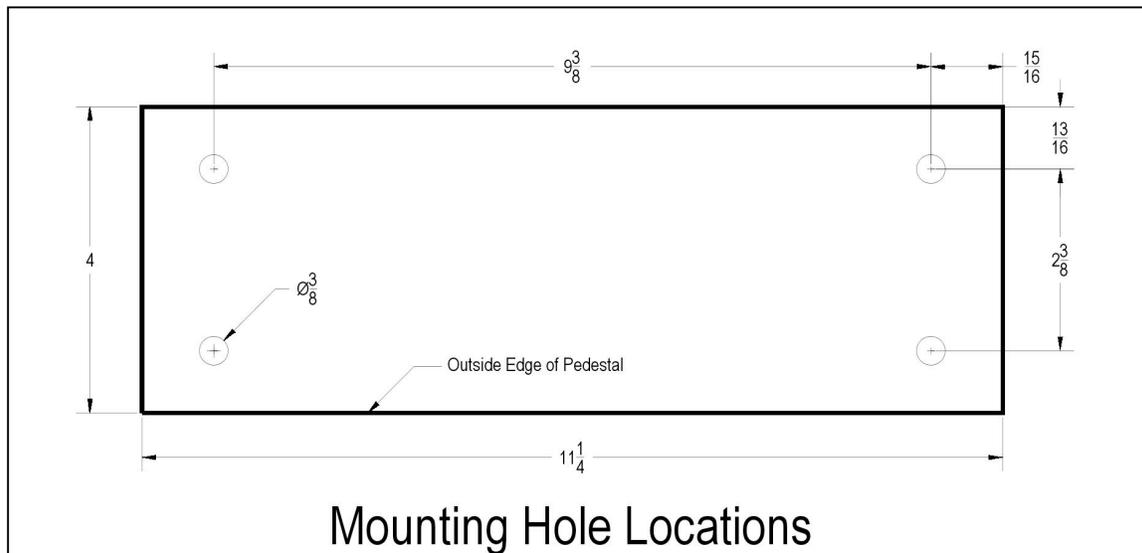

Figure 1
Step 2 - Remove the existing pedestal and try and preserve some of the mounting studs whenever possible. (See Figure 1)